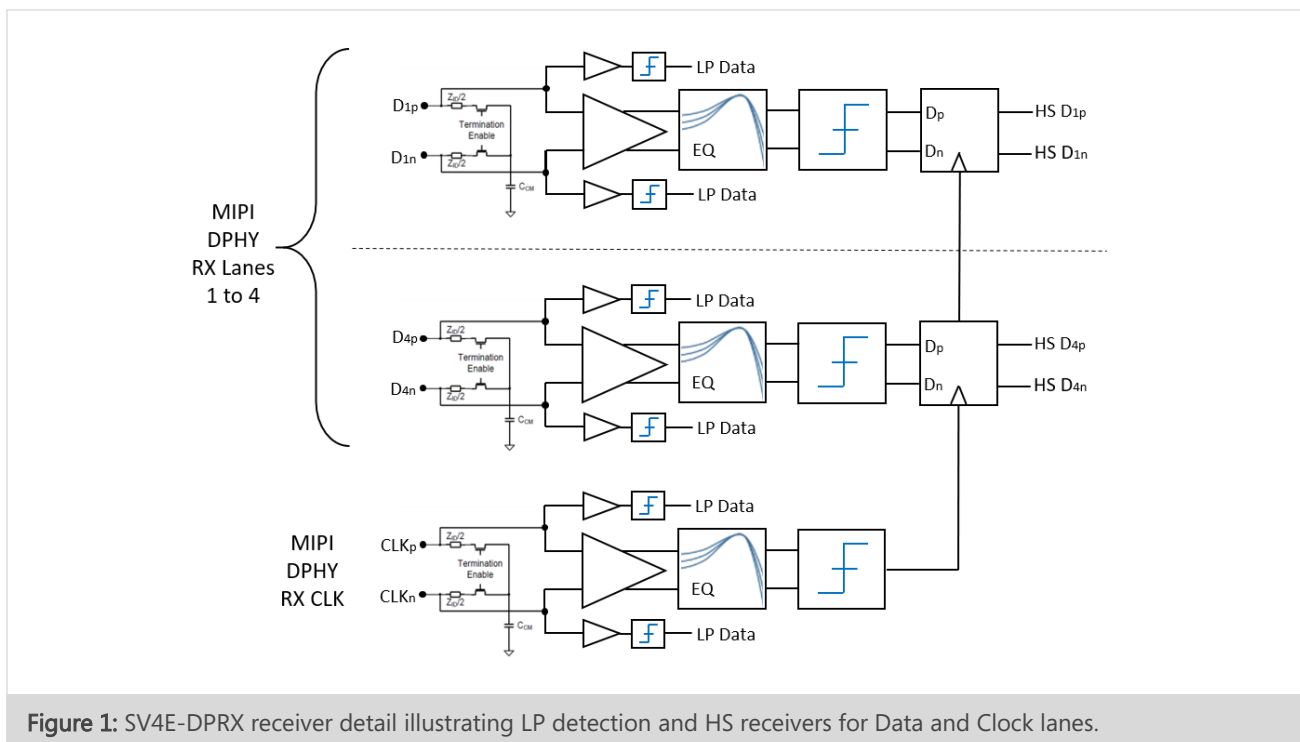

Figure 1: SV4E-DPRX receiver detail illustrating LP detection and HS receivers for Data and Clock lanes.
The SV4E-DPRX MIPI D-PHY Analyzer is a complete, integrated, 4-lane D-PHY receiver providing the analog front-end circuitry for D-PHY as well as a complete protocol back-end. As shown in Figure 1, each lane contains low power (LP) programmable threshold voltage detectors, dynamically controlled termination resistors, and fully differential high-speed (HS) receivers. The real-time behavior of the DPRX enables broad acquisition capabilities for physical-layer and protocol-layer testing.